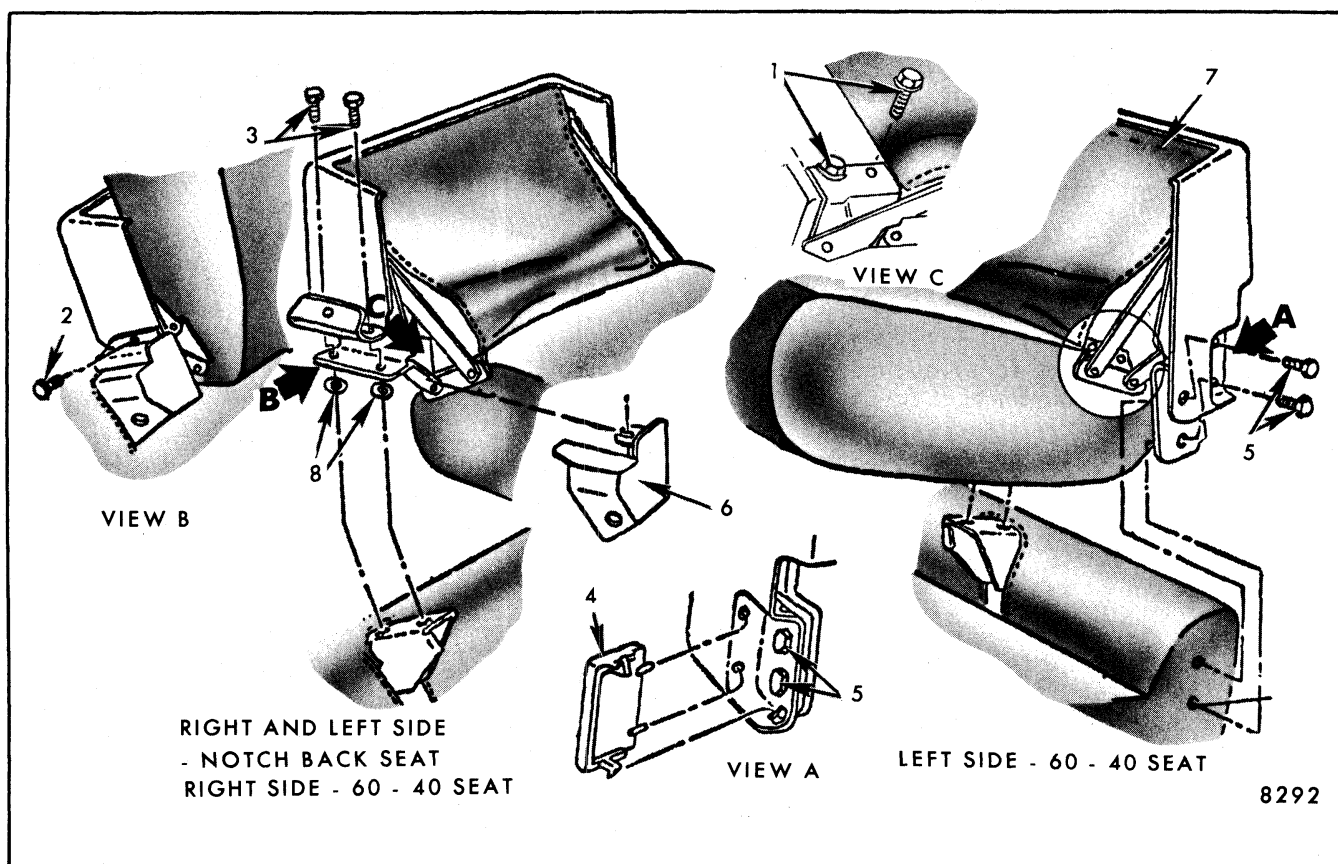

Fig. 9-59-Front Seat Center Armrest - Full Width Notch Down and 60-40 Seat
2. Carefully pull curtain back sufficiently to remove screws securing center armrest to linkage, shown at "1" in Figure 9-59, and loosen
outer screws securing curtain lower retainer to armrest (Fig. 9-59).
3. Disengage armrest from support linkage and turn armrest upside-down on trim panel finishing cover. Remove staples, indicated at "7" in Figure 9-59, securing armrest curtain upper retainer (Fig. 9-59); then remove armrest and curtain from armrest frame assembly.
flat-bladed tool to carefully pry out serrated fastener, shown at "2" in Figure 9-59, at both sides of armrest on notch down seat or right side on 60-40 seat. On left side of 60-40 seat snap off plastic cover, shown at "4" in Figure 9-59.
3. Remove armrest assembly attaching screws, shown at "3" in Figure 9-59, then remove armrest and linkage assembly from seat.
NOTE: If washers are present between armrest linkage and linkage supports on seat (Fig. 9-59), note location and number of washers used and reinstall in same position. Washer(s) are used to align armrest to front seat back(s).
4. To install, reverse removal procedure. Prior to installing serrated fasteners, shown at "2" in Figure 9-59, check alignment and operation of armrest. Where necessary to align armrest with seat back(s) install washer(s), as required, be-
tween armrest support and support on seat (Fig. 9-59).